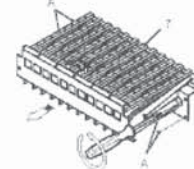

Figure 16.1
- Loosen the screws A and remove the burner 7 (Figure 16.1)